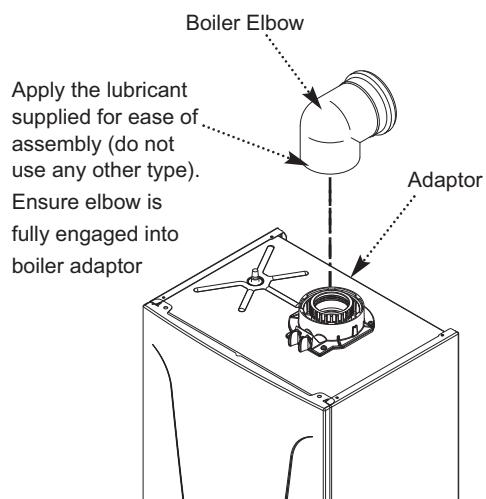

Fig. 29
10. Remove the flue elbow and insert the flue through the hole in the wall. Fit the flue trims if required, and refit the elbow to the boiler adaptor, ensuring that it is pushed fully in. Secure the elbow with the screws supplied in the boiler fitting kit (Fig. 29).